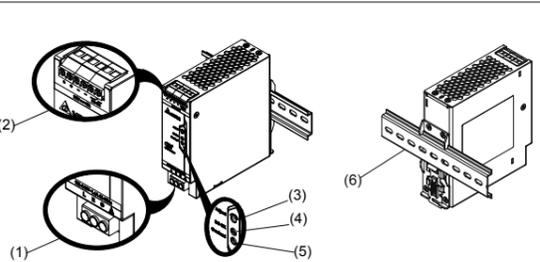

Figure 1
### 2. Device description (Fig. 1)
| Refer to Fig. 1: | Stranded / Solid   |       | Torque  |         |
### 4.1. Input connection (Fig. 1, Fig. 6)
For AC input connections, use L, N and PE connections on the input terminal connector (see Fig. 1 (1)) to establish the 100-240Vac connection. Fig. 6 shows the connection to the various network types.
### 4.2. Output connection (Fig. 1 (2))
Use the “+” and “-” screw connections to establish the 24Vdc connection. The output provides 24Vdc. The output voltage can be adjusted from 24 to 28Vdc on the potentiometer. The green LED DC OK displays correct function of the output (Fig. 1 (4)). The device has a short circuit and overload protection and an over voltage protection limited to 35Vdc.